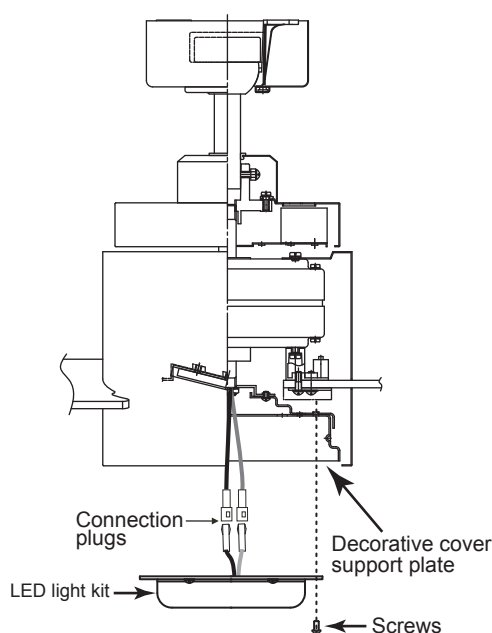

Figure 1
1. Remove 1 of the 3 screws from the decorative cover support plate and loosen the other 2 screws. (Do not remove) (Fig. 1)
3. Place the key holes on the LED light kit over the 2 screws previously loosened from the decorative cover support plate, turn light kit until it locks in place at the narrow section of the key holes. Secure by tightening the 2 screws previously loosened and the one previously removed. (Fig. 1)